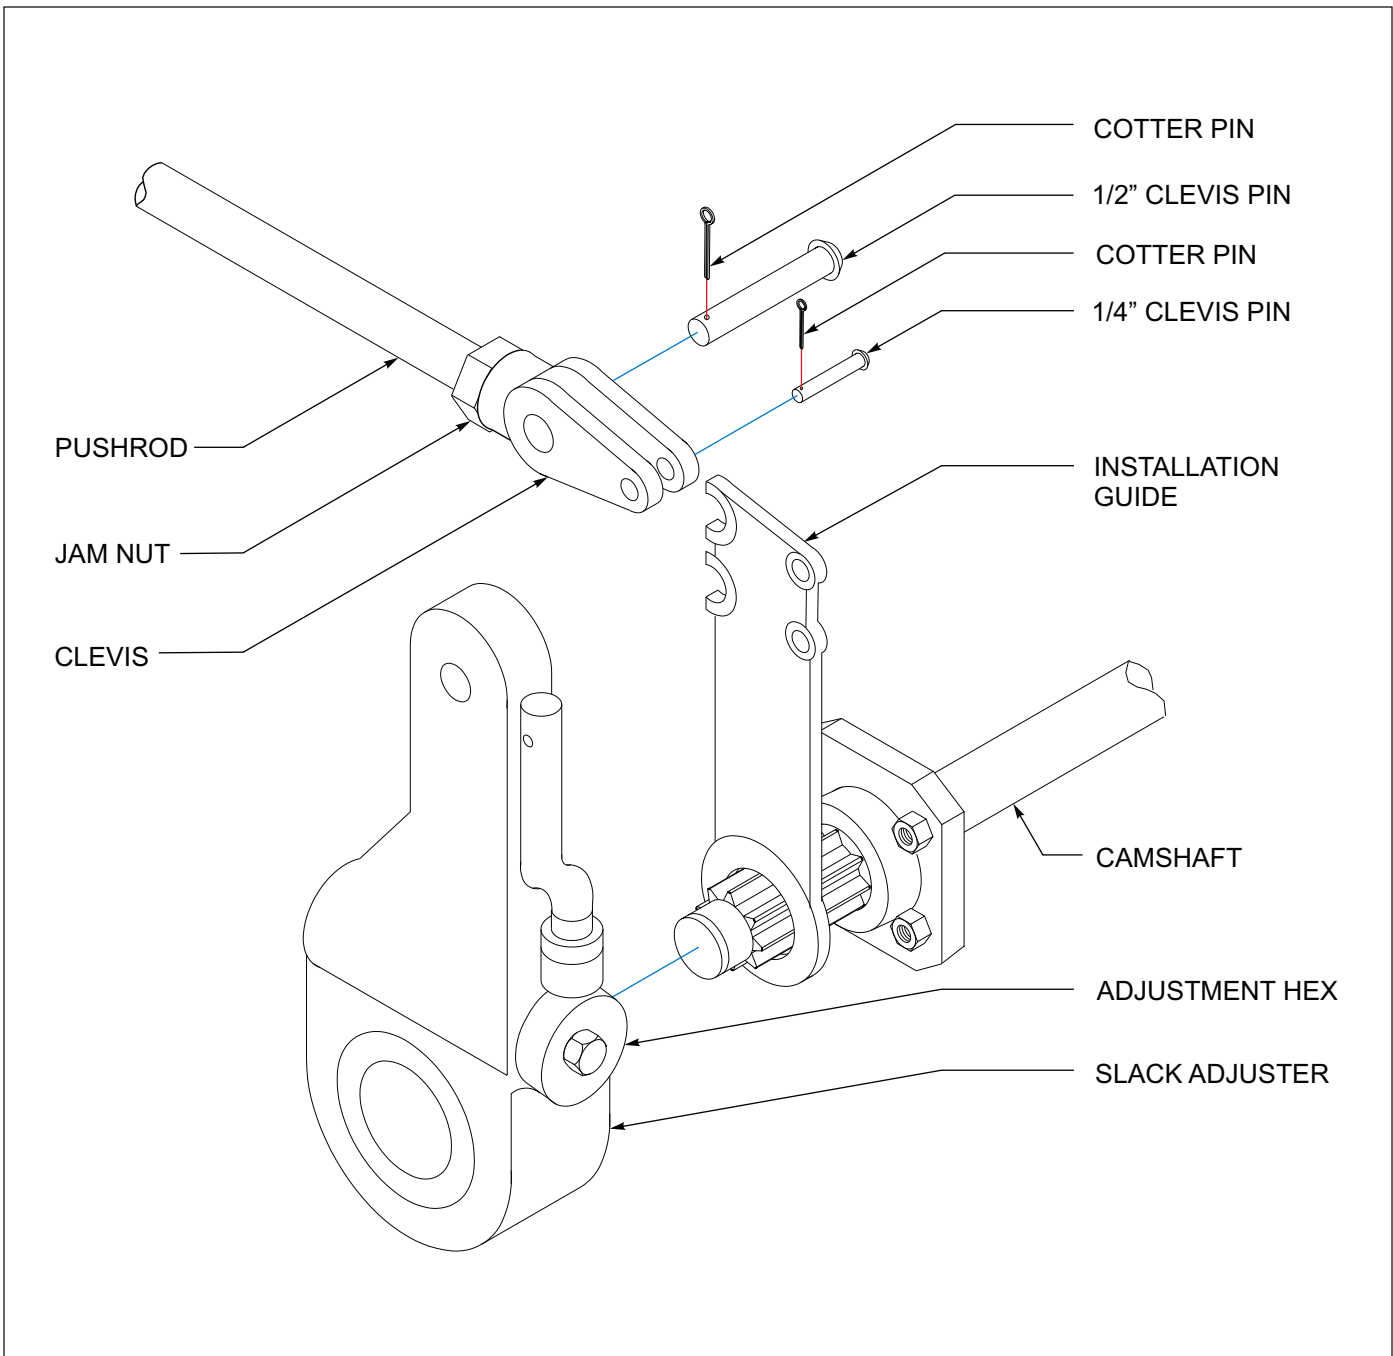

Figure 4-19: Slack Adjuster
2. Check that the push rod is fully retracted, apply air to release spring brake (*See Figure 4-19.*)